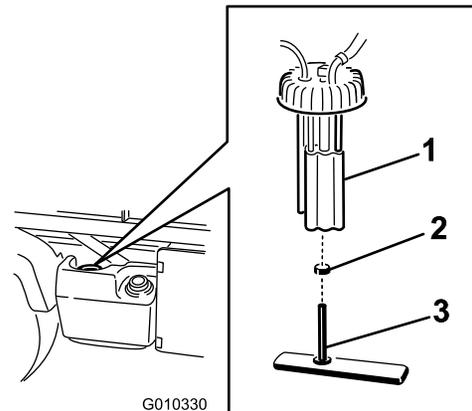

Figure 57
2. Unplug the wiring harness connectors from the fuel pump (Figure 57).
3. Loosen the hose clamp and disconnect the fuel line from the fuel pump cap (Figure 57).
4. Remove the fuel-pump cap by unthread it from the top of the fuel tank (Figure 57).
5. Remove the fuel pump assembly and fuel filter from the tank (Figure 57).
6. Remove the clamp securing the fuel filter hose to the fuel pump fitting (Figure 57).
7. Remove the hose from the fitting (Figure 57).